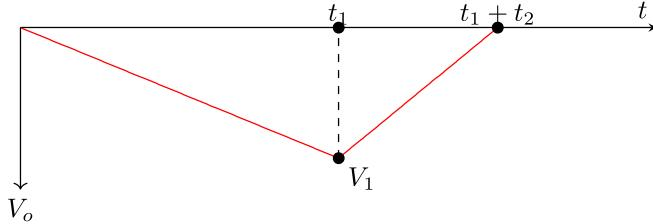

Figure 1.9: Integrator output after t_2
3. **Comparator AND Clock:** We see that the integrator output in figure 1.9 is always negative, during the whole conversion process ($t_1 + t_2$). Since this output is fed to the inverting terminal of the comparator (OA_2), the output of OA_2 will always be high. Consequently, the AND gate function reduces from Comparator AND Clock to Clock (1 AND A = A). This means, the AND gate will output high value whenever the clock pulse is high. Only after t_2 , when the integrator's output becomes 0, the comparator will give low output. Then the AND gate will block the clock pulse from the counter, marking an end to the counting.
3. Well we haven't discussed the context behind the name 'Dual Slope' yet, but you should have guessed it by now. As we see in both figures 1.9 & 1.11, the slope of the integration, and de-integration phases are different. First one depends on the value of the sampled input, while the second one is the same for all samples, and depends on the reference voltage instead.